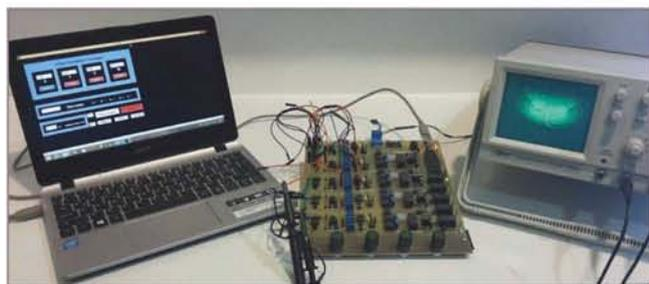
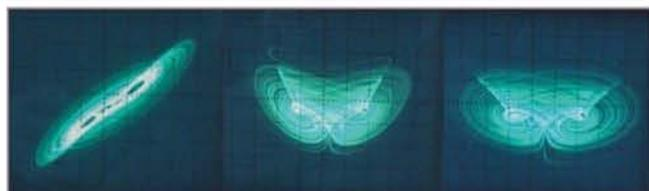

Figure 5: Realization of the chaotic Chen system with computer-controlled electronic circuit
Figure 6: Oscilloscope outputs of the chaotic Chen system circuit
the Chen system is shown on Figure 5. Detailed oscilloscope prints are shown in Figure 6. The initial conditions were taken to be x (0) = 0.16, y (0) = 0.16 and z (0) = 9V. ●